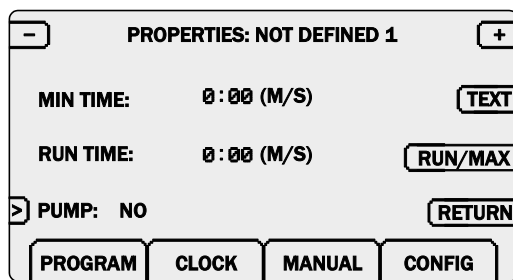
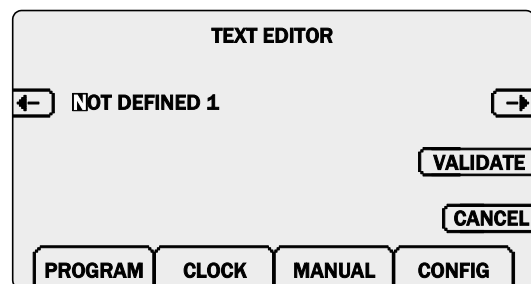

Figure 6: Property settings for a type of output
Figure 7: Text editor
- 4 To modify the text for this type of output press the TEXT key (Figure 6). Entering a letter is done by rapidly pressing the corresponding key the number of times equivalent to the position of the letter on that key. Ex.: to enter 'E', the number 3 on the keypad must be pressed two times (do not wait between each keystroke or the cursor will automatically advance). After entering a new letter, the cursor will advance after 2 seconds or it will immediately advance if a different key is pressed. Press CLEAR to erase a single letter and use the arrows to move the cursor in the text. Press VALIDATE (Figure 7) to accept the changes and return to the previous screen or CANCEL to return to the previous screen without changing the text (only if ENTER on the keypad has not been pressed).